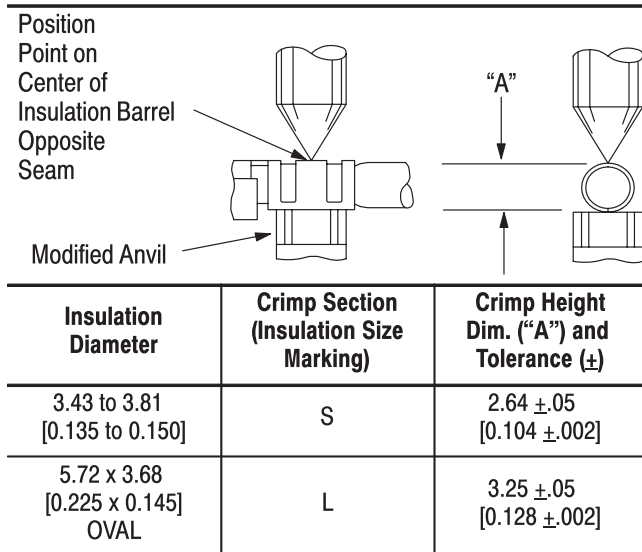

Figure 4
*This tool is provided with a crimp adjustment feature. Initially, the crimp height should be verified as specified in Figure 4. Refer to Section 6, CRIMP HEIGHT INSPECTION, and Section 7, CRIMP HEIGHT ADJUSTMENT, to verify crimp height before using the tool to crimp desired shields and wire sizes.*
1. Refer to Figure 4 and select a cable (maximum size) for each crimp section listed.
3. Using a crimp height comparator, measure the insulation barrel crimp height as shown in Figure 4. If the crimp height conforms to that shown in the table, the tool is considered dimensionally correct. If not, the tool must be adjusted. Refer to Section 7, CRIMP HEIGHT ADJUSTMENT.